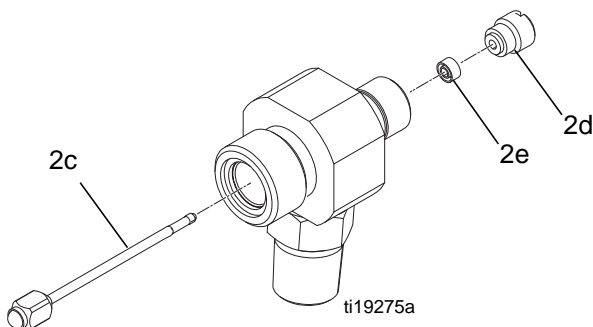

FIG. 10
- Remove the needle (2c). Unscrew the seal retainer (2d) then remove the seal (2e). See FIG. 10.